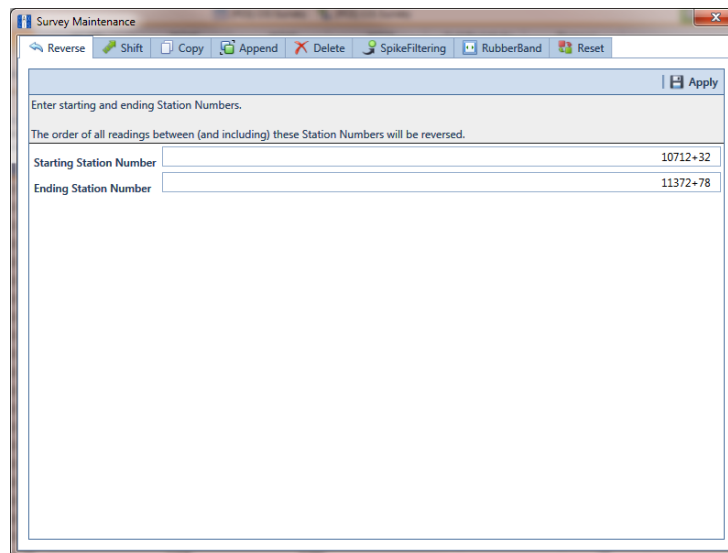

Figure 7-76. Reverse Survey Readings
- 5 Click  **Survey Maintenance** to open the *Survey Maintenance* dialog box. Then click  **Reverse** if the tab is not selected (Figure 7-76).